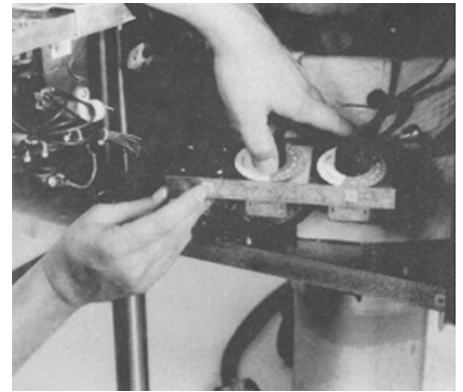

Figure 5
- B. Remove the two screws securing the thermostat/fuse panel to the bottom panel and discard (see figure 5).